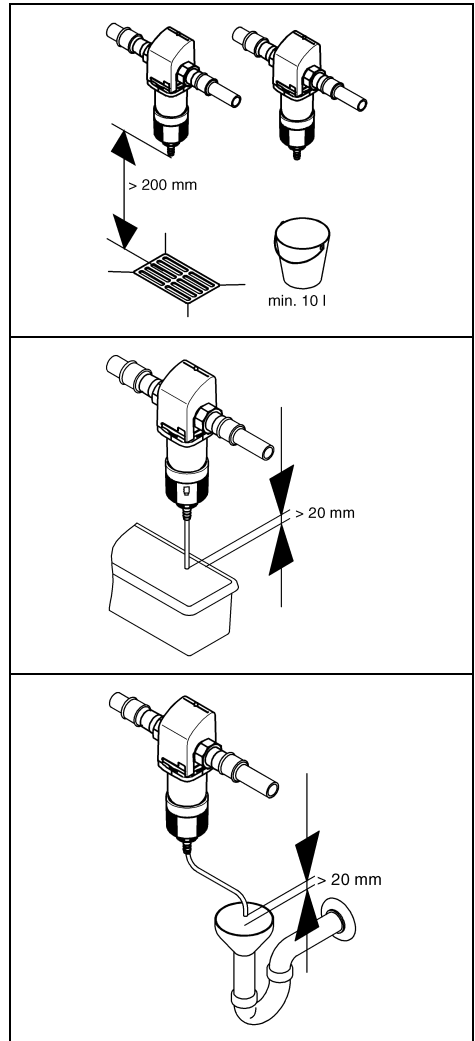

Fig. 4: Backwashing water discharge options
An adequately dimensioned wastewater connection (e.g. floor drain) to DIN 1986 must be available for the backwashing water. If there is no wastewater connection an appropriately sized bucket can be used (see fig. 4).
- When the bucket is half-filled the backwashing process must be stopped. Otherwise it is possible for the bucket to overflow. Therefore the bucket must be adequately dimensioned (see fig. 4) and the backwashing should be carried out quickly.